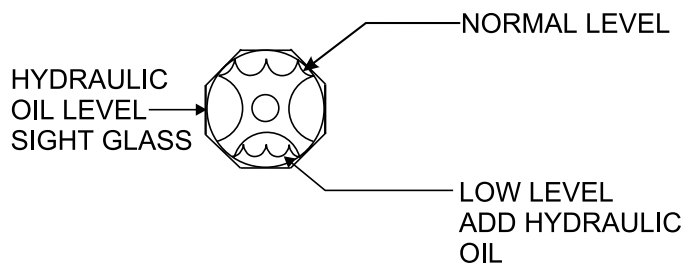

Figure 5. Hydraulic Oil Sight Glass
1. Determine if the hydraulic oil is low by observing the level of oil in the hydraulic Oil Sight Glass (Figure 5).